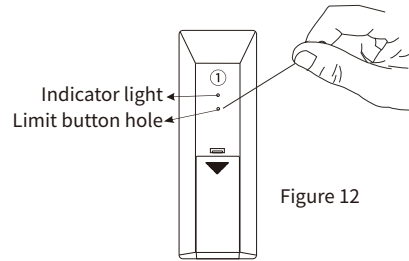
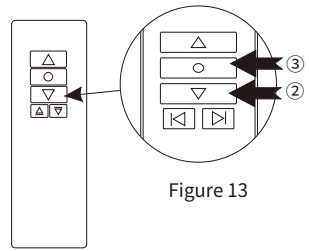

Figure 12
Figure 13
c. Use a small paper clip or small round needle to insert the electronic positioning setting key hole of the elevator on the back of the remote control (as shown in figure 12), press the electronic positioning setting key of the elevator, the red and blue LEDs will light up, and then press the elevator Rack down button, at this time, after the lifting frame is lowered to a suitable position, press the stop button of the remote control as shown in figure 13), and then press the electronic positioning setting button of the lifting button, the red and blue light-emitting diodes are off, and the lifting frame moves up and down. The electronic lower limit setting of the lifting frame is completed.